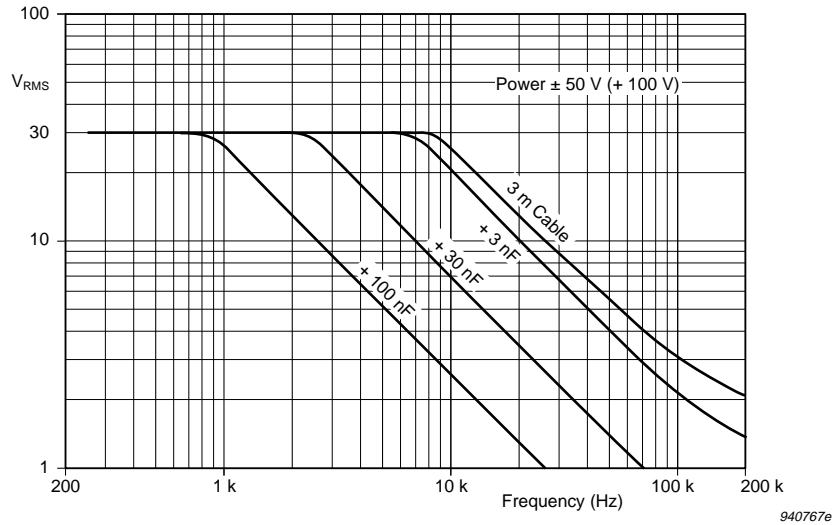

Fig. 8.6 Upper limit of dynamic range (3% distortion) of preamplifier (with a $\pm 50V$ DC supply voltage) due to capacitive loading as a function of frequency
The effects of various capacitive output loads (cables etc.) on the high frequencies are also shown. All curves shown in Fig.8.3 apply only for low signal levels where the limitations shown in Fig.8.5 and Fig.8.6 have no influence.
a. See Fig. 8.6 for upper limit at higher frequencies
Fig.8.5 and Fig.8.6 show the distortion-limited output when the preamplifier is used with different power supplies.